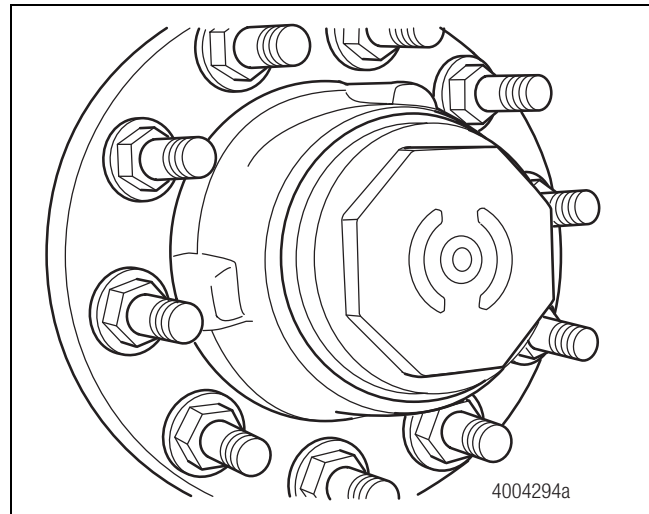

Figure 3.4
- The hubcaps are a screw-on type with no provisions for adding lubricant. Plastic hubcaps are standard. Aluminum hubcaps are optional and are used primarily with hubodometers and the Meritor Tire Inflation System by P.S.I.™ Figure 3.4.